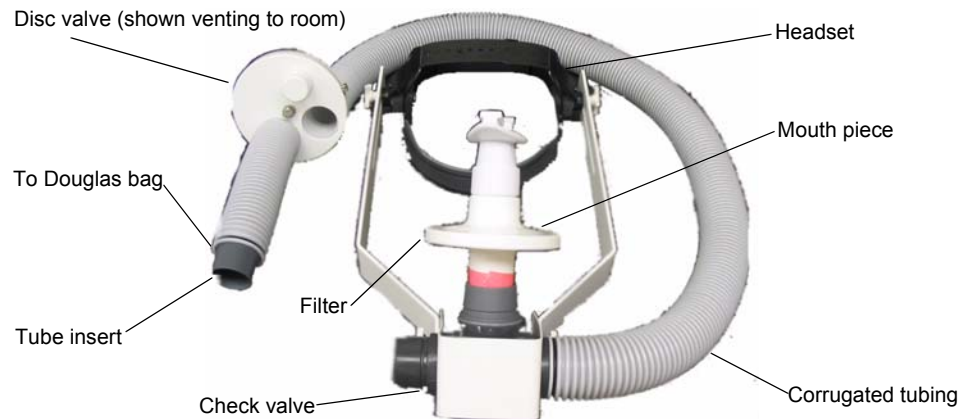

Figure 4-2. Gas capture apparatus (Douglas bag not pictured)
2. Using the 1.5" corrugated tubing provided, connect the Douglas bag to the headset check valve. You will need a plastic tube insert to mate the connectors. See Figure 4-2 for a picture of this component.
4. Rotate the circular valve plate (disc valve) so that gas travelling from the check valve toward the Douglas bag will be vented to the room instead of being allowed to fill the bag (as shown in Figure 4-2).